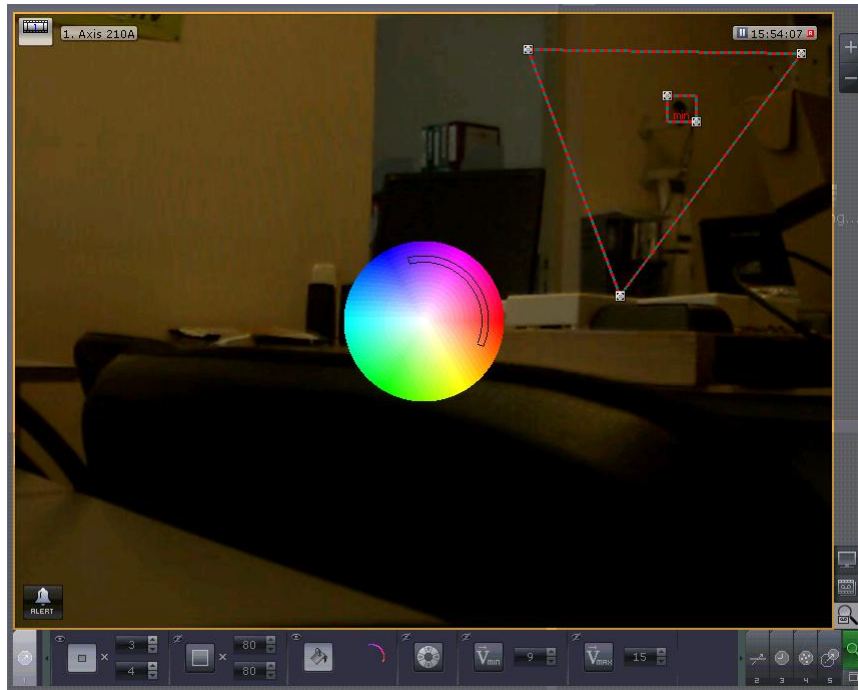

Fig. 7.3—74 Setting the color of a moving object
3. Set the color range on the palette using the black frame. The frame is creating using the Drag & Drop method (click any mouse button, move the mouse, and release the button) (see Fig. 7.3—74).